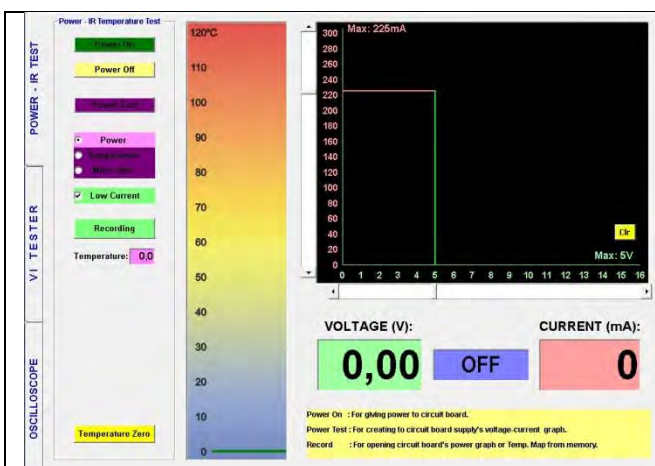

Figure 32: Adjusting the Voltage and Current (Step 1)
1. The maximum operating Voltage and Current of the circuit is adjusted using the scroll bars. (Figure 32)